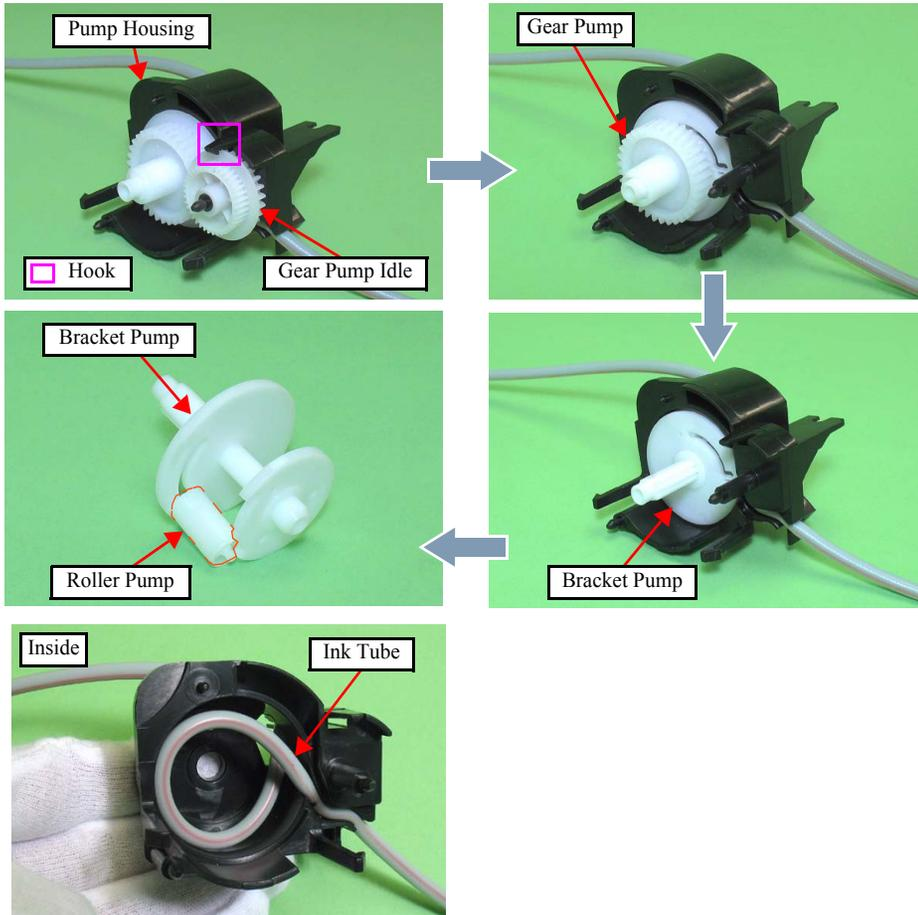

Figure 4-63. Disassembling the Pump Assy
- Install the Roller Pump to the Bracket Pump. (See Fig.4-63.)
- Install the Gear Pump. (See Fig.4-63.)
- Install the Gear Pump Idle. (See Fig.4-63.)